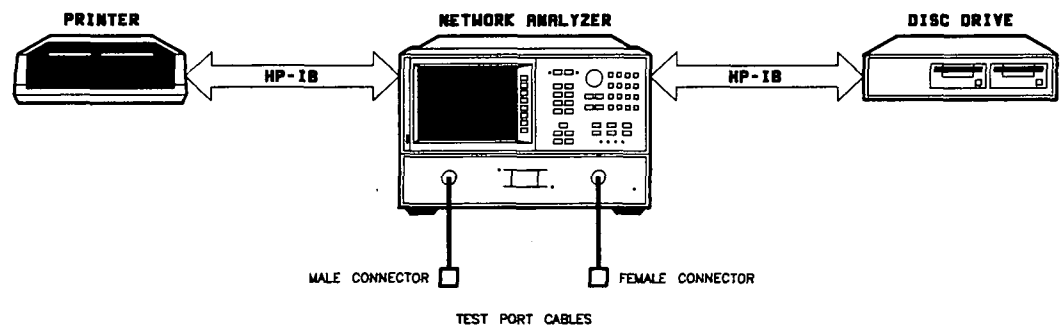

Figure 1. System Verification Setup
1. Connect the system as shown in Figure 1.